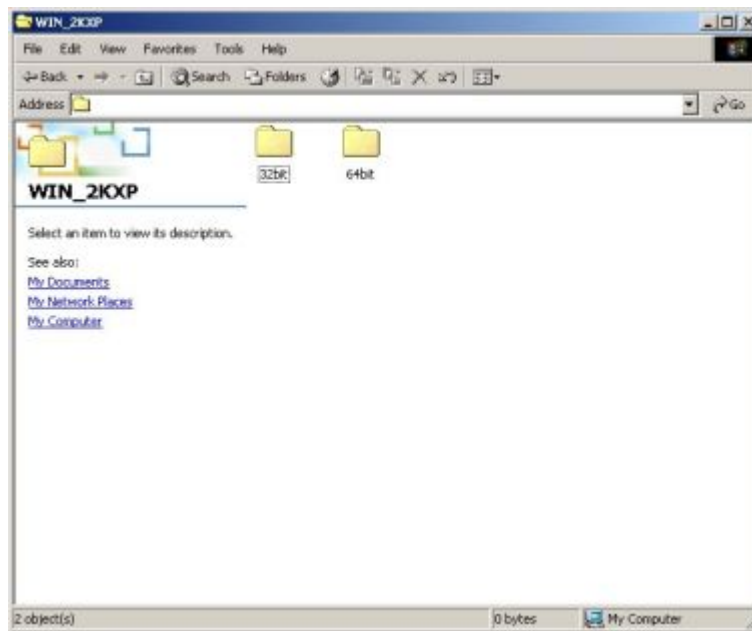

Figure 6-21: Select Operating System Type
Step 6: The window in **Figure 6-21** appears.
Step 7: In **Figure 6-21** select the operating system type installed on the system.